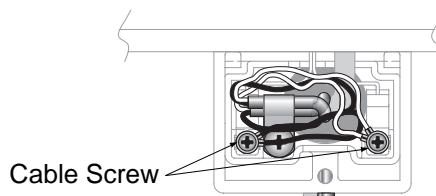

Fig.4
12. Loosen 2 cable screws on the terminals for controls and connect the cable. You cannot connect more than 2 cables at a time. When connecting more than 2 cables, connect them in parallel. (Fig. 4)